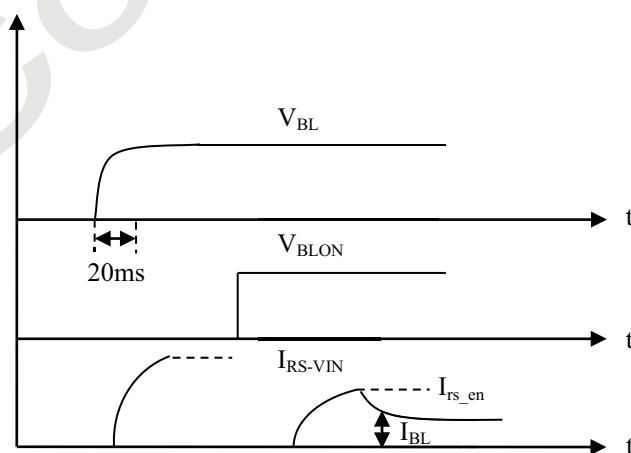

Fig. 3.4 The timing sequence diagram of inrush current measurement
(1) Dimming ratio = 100% (Max.) ($T_A = 25 \pm 5\text{ }^{\circ}\text{C}$, Turn on for 45minutes).
(2) The measurement condition: V_{BL} rising time is 20 ms. (V_{BL} from 10% ~ 90%), the sequence diagram is shown as Fig. 3.4.
(3) Normal: 0 ~ 0.8V; Abnormal: Open collector.